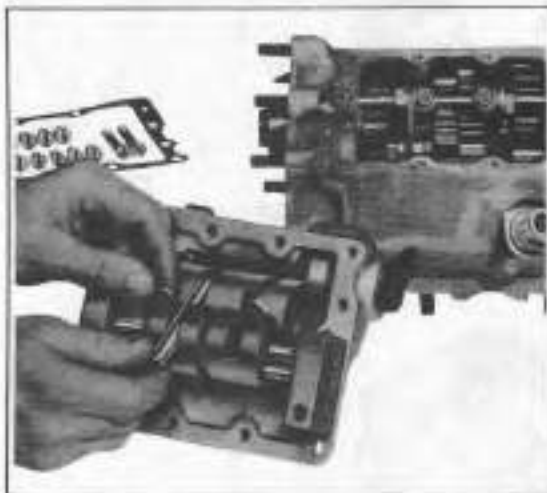

Figure 4-16. Adjusting Shifter Gauge
### DISASSEMBLING SHIFTER FORKS (Figure 4-16)
Check adjustment of shifter forks with Fork Shifter Gauge, Part No. 96364-39, by placing shifter gauge on shifter cover as shown in Figure 4-16. With the 3/8 in. gauge rod furnished, set tool gauge blocks in exact alignment with straight sections of cam slots in shifter cam. Lock gauge blocks in place with thumb screws. Rotate shifter cam and repeat for other cam slot.
Carefully check and/or clutch (19) (Figures 4-16 and 4-18) and engaging dogs in gears. If they are rounded or flattened appearing, they must be replaced.